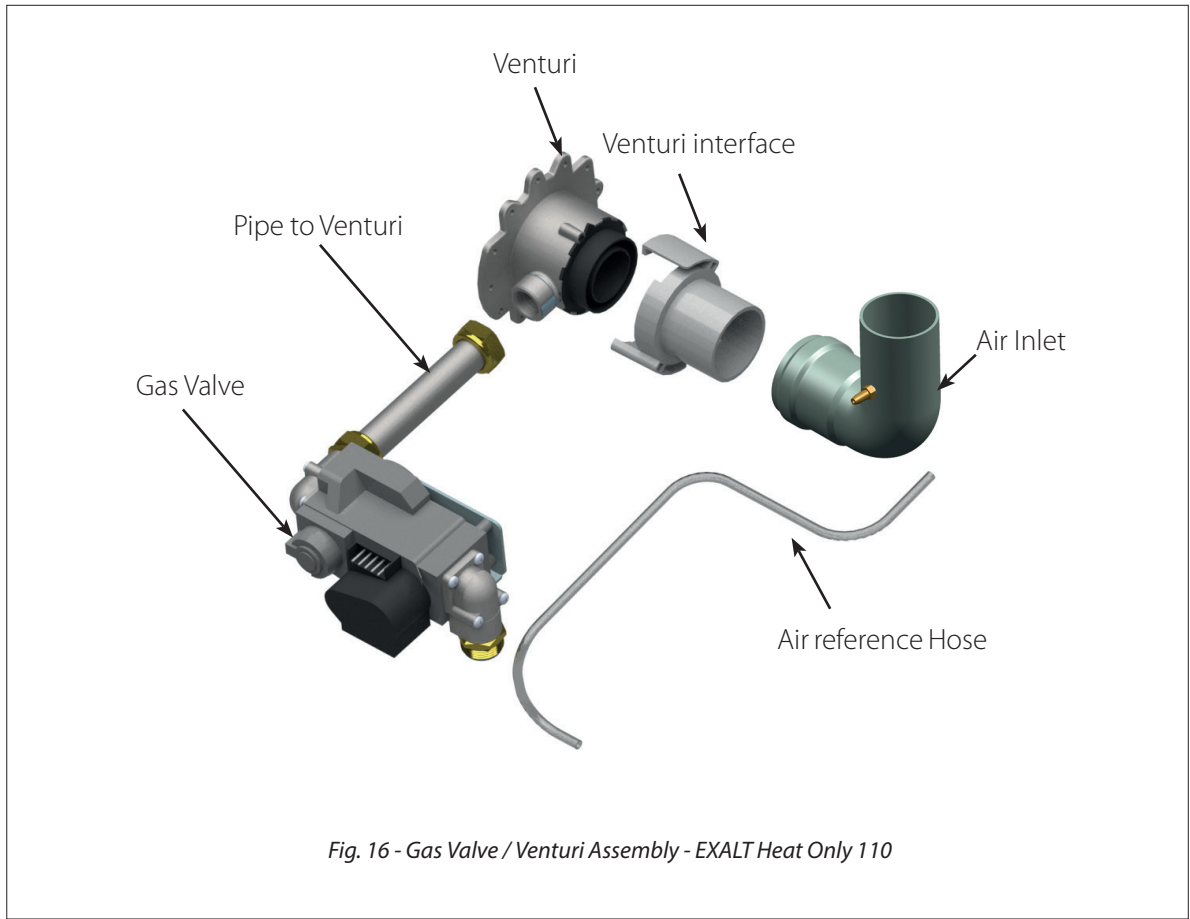

Fig. 16 - Gas Valve / Venturi Assembly - EXALT Heat Only 110
- Prior to start up, ensure the unit is set to fire propane. Check the rating label for the type of fuel. Check the venturi for propane conversion label. If there is a conflict or doubt on the burner configuration, remove the venturi and check for proper propane gas orifice sizing on venturi labeling. Refer to *Table 3* for orifice sizes. See *Fig. 16, Fig. 17 & Fig. 18* for venturi location. Refer to Propane Conversion Instructions for proper removal and replacement of the venturi.